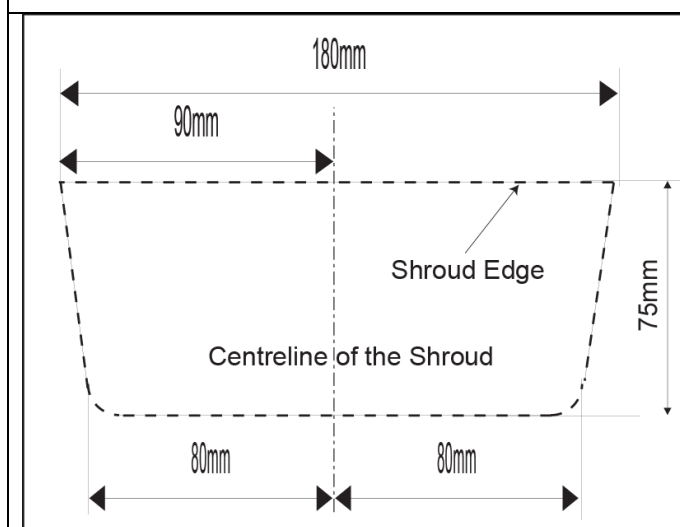

Figure 8 – Shroud cut-out illustration.
19. Cut the shroud in accordance with the illustration, as shown in Figure 8.